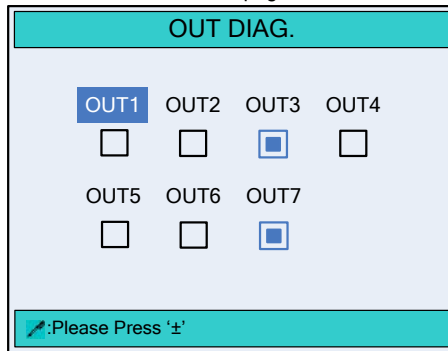

Figure 4-3 The OUT DIAG. page
On the **DIAGNOSE** page, move the cursor to parameter **2.OUT DIAG.** (or press the number key 2), and press to enter the **OUT DIAG.** page, as shown in Figure 4-3.